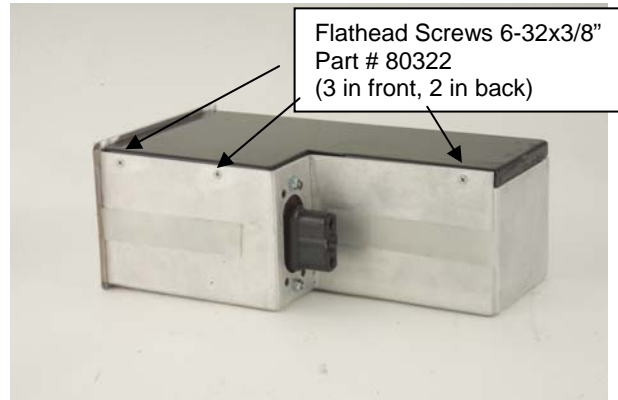

Fig. 7a
7.1 Battery Box (Fig. 7a)
- 2) Remove the cover by removing the five screws located around the sides (Fig. 7a).